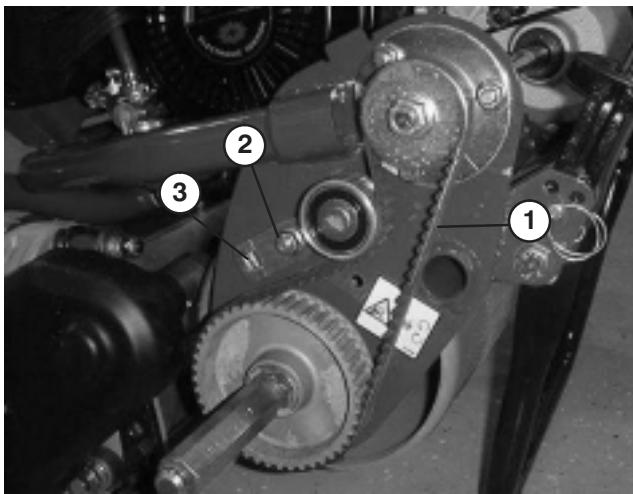

Figure 47
- B. Using a 3/8 in. drive torque wrench, rotate the idler bracket with 35–40 in.-lb. of torque to set belt tension (Fig. 47). Tighten the idler bracket mounting capscrew. **Do not over-tension belt.**